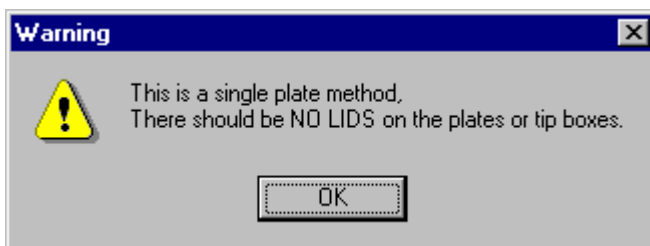

Figure 12. Warning dialog box.
- 5.5.8 Verify that the caps from the strip tubes, containing the samples to be analyzed, have been removed, then select “OK” from the Warning dialog box (Figure 12).